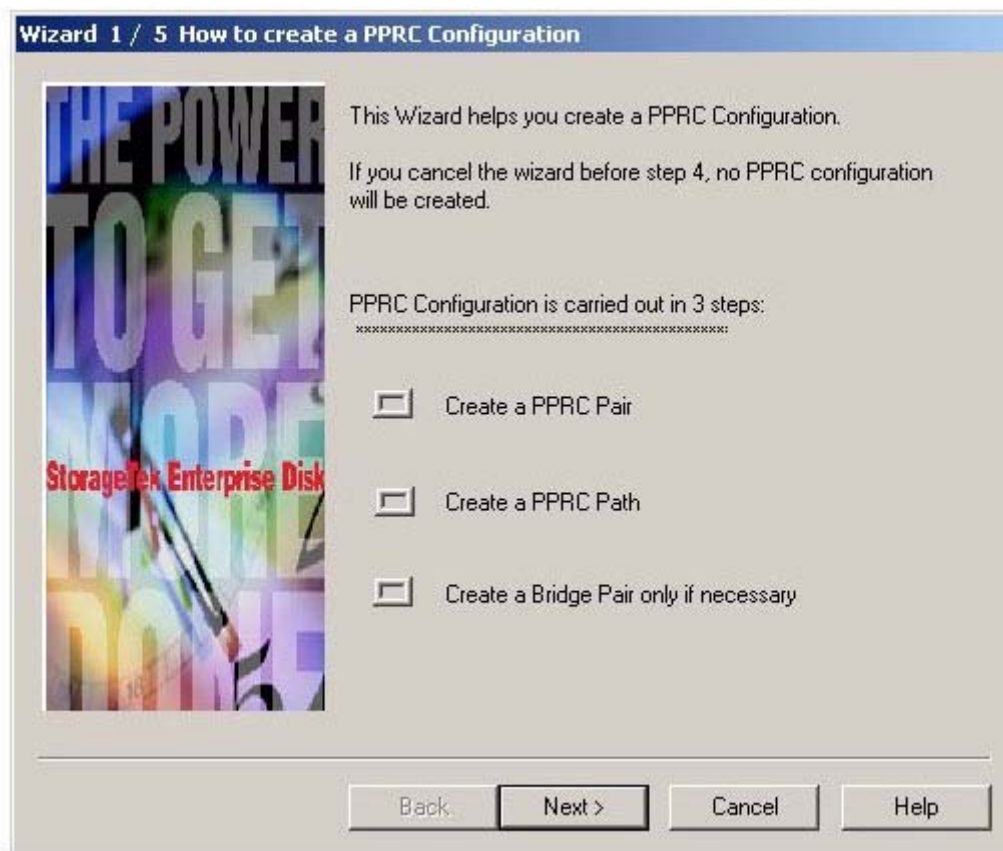

Figure 14 Selecting a PPRC Action.
- With Configuration Wizard selected, the dialogue box of Figure 14 appears. Left-click on the “Next” button.